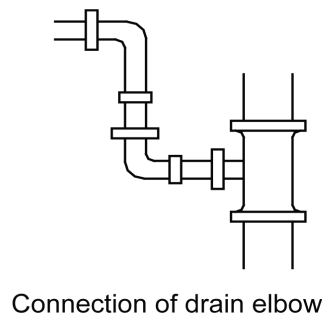

Fig.4.3.4
- 2) Connection of downspout elbow (Fig.4.3.4).